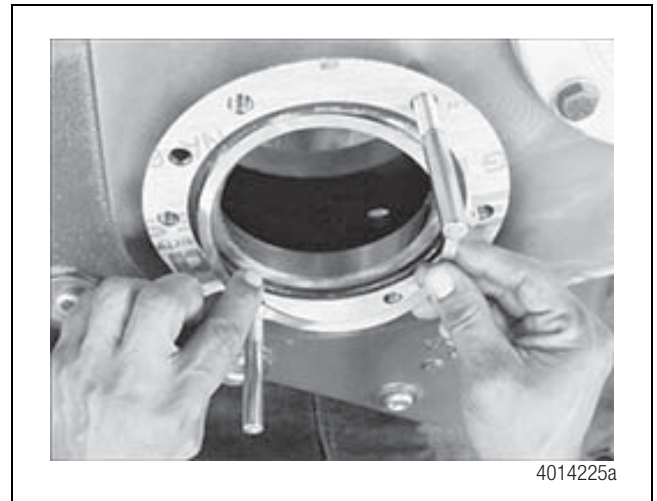

Figure 6.36
3. Insert the front bearing cup into its bore and place the original shim pack on top of the bearing cup. Ensure that the declutch in the next step compresses the bearing cup and shims into place. Figure 6.36.